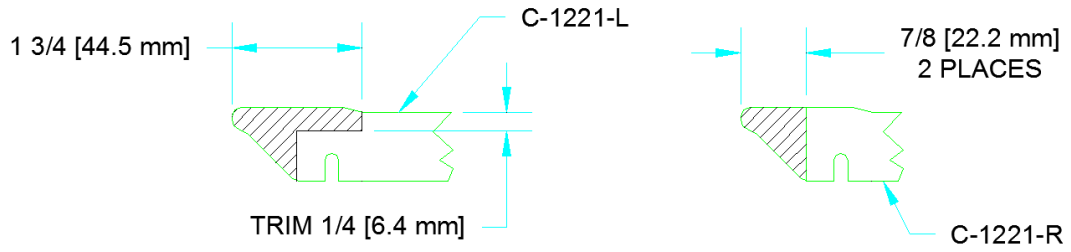

FIGURE 10: MODIFYING THE RETAINERS
Step 18 (Seal Kit Installed): If a seal kit is installed remove and modify the C-1221-L & -R Seal Retainers as shown in Figure 10 to provide clearance between the retainers and the canopy block. Deburr and bevel the edges at the screw slots as shown in Figure 10, if desired, which aids in sliding the retainer beneath the washers.